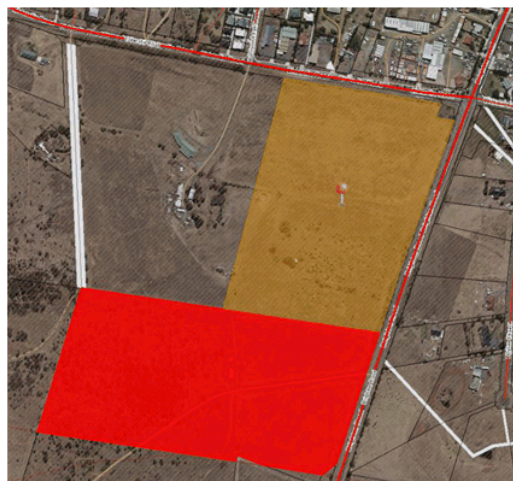

Figure 1: 69 Brighton Rd is shown in red and 1 Elderslie Rd shown in yellow.
- 5.2. The total area of 69 Brighton Road measures 24.59ha. However, the area proposed to be relocated within the Urban Growth Boundary (i.e. the area shown in red in Figure 1) measures approximately 11.27ha.
- 5.7. 1 Elderslie Road has an area of 10ha, and is shown in yellow on Figure 1 below.